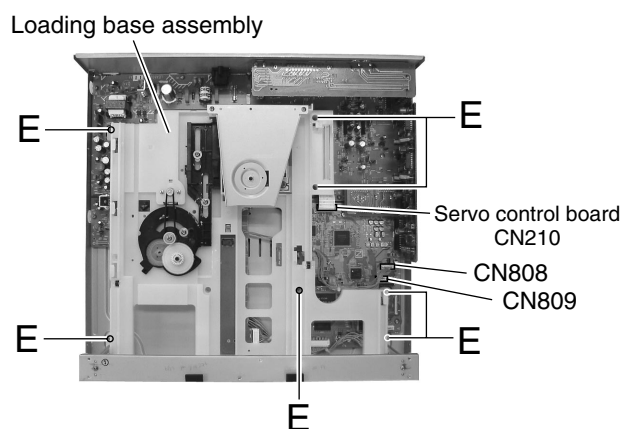

Fig.11
■ Removing the loading base assembly (See Fig.11)